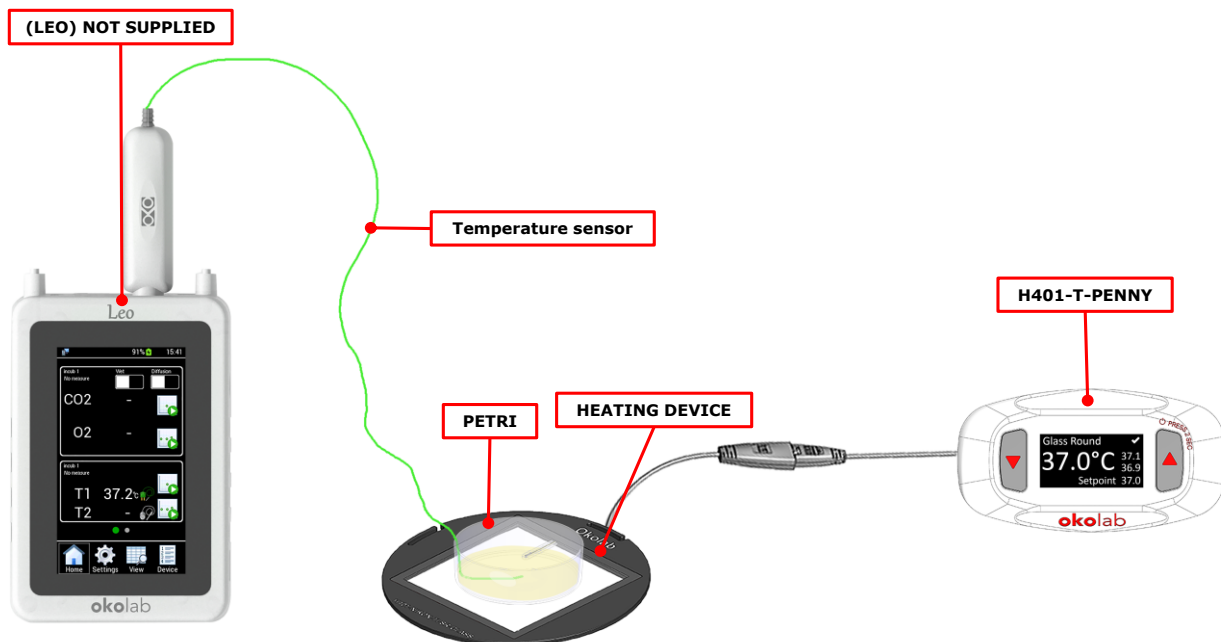
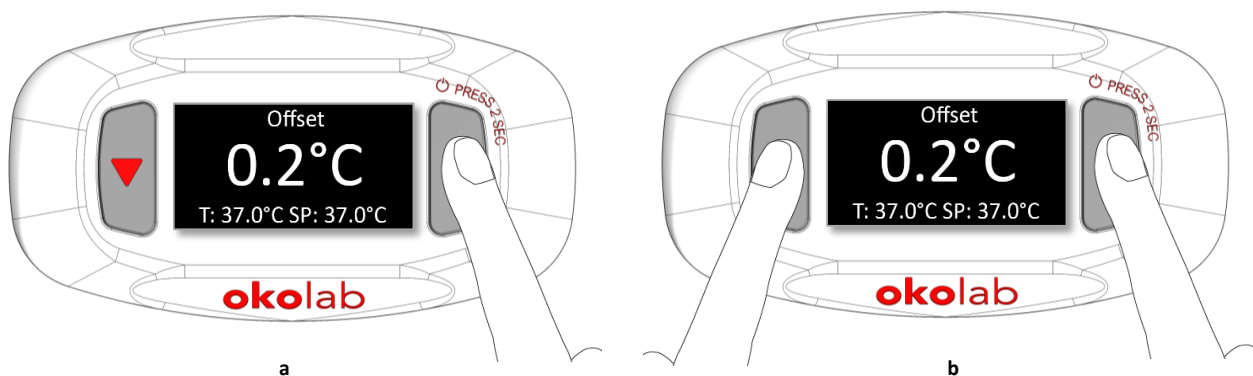

Figure 20. H401-T-PENNY: manual calibration with LEO
Figure 23. Insert the Device Offset value (a - b).
4. Place the petri-dish on the center of the heating device, as shown in Figure 20.
9. Insert the offset value by pressing UP or DOWN button, as shown in Figure 23 a and press UP & DOWN buttons at the same time for 1 second to save (see Figure 23 b).
**Tip** ► Okolab recommends introducing as offset value the difference between the actual temperature measured by the independent T Sensor and the Setpoint temperature. In the example shown in Figure 20, LEO reports 37.2°C and H401-T-PENNY reads 37°C, the Offset value will be 0.2°C, as shown in Figure 23.  $\text{Temperature offset} = \text{Actual} - \text{setpoint}$